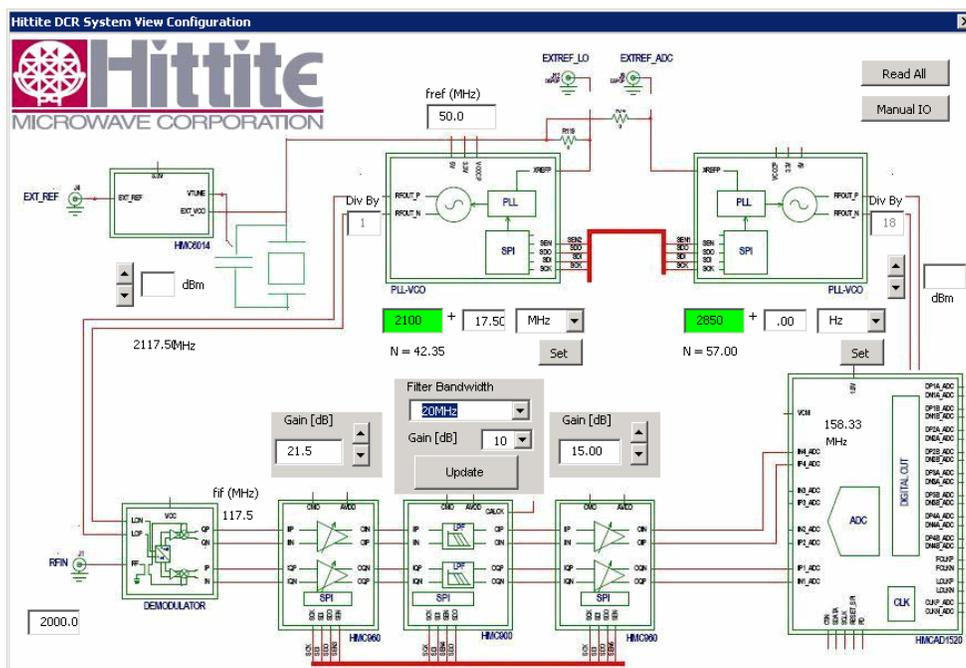
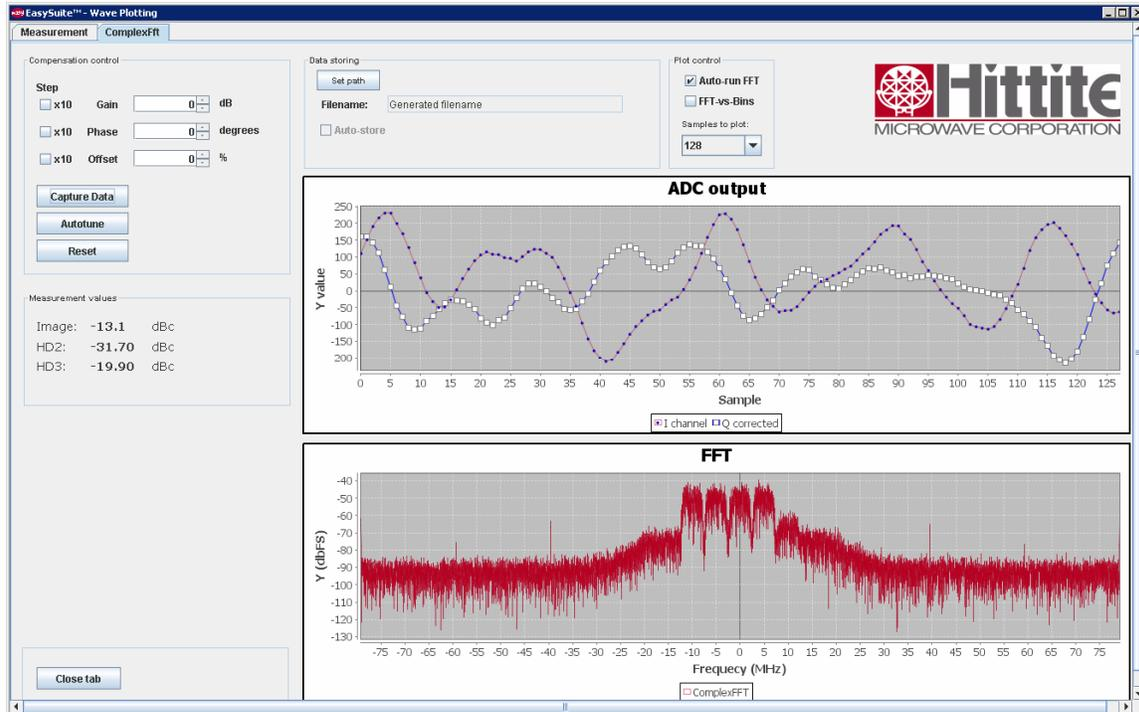
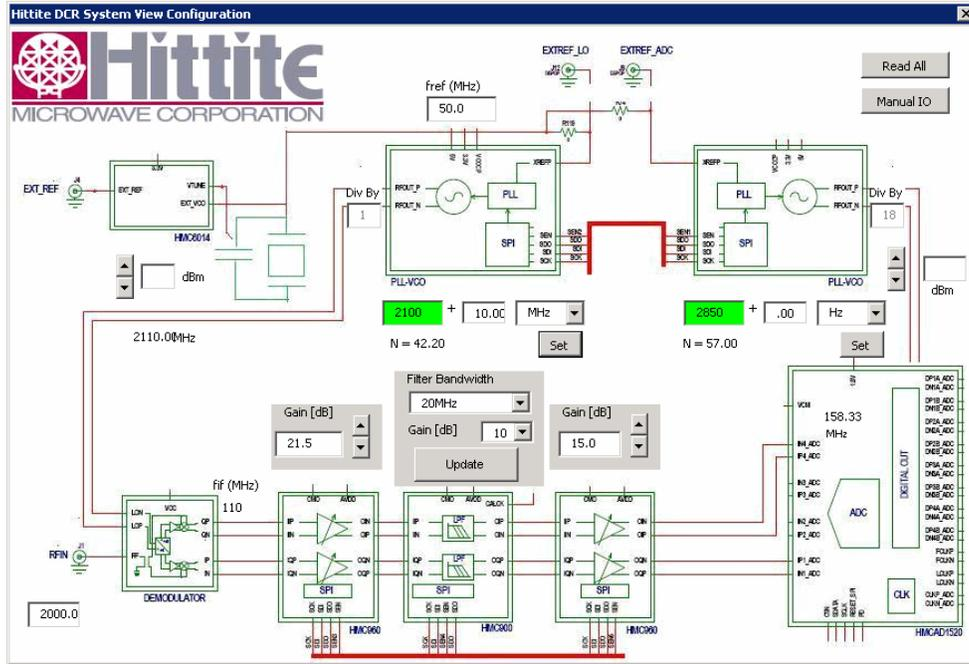
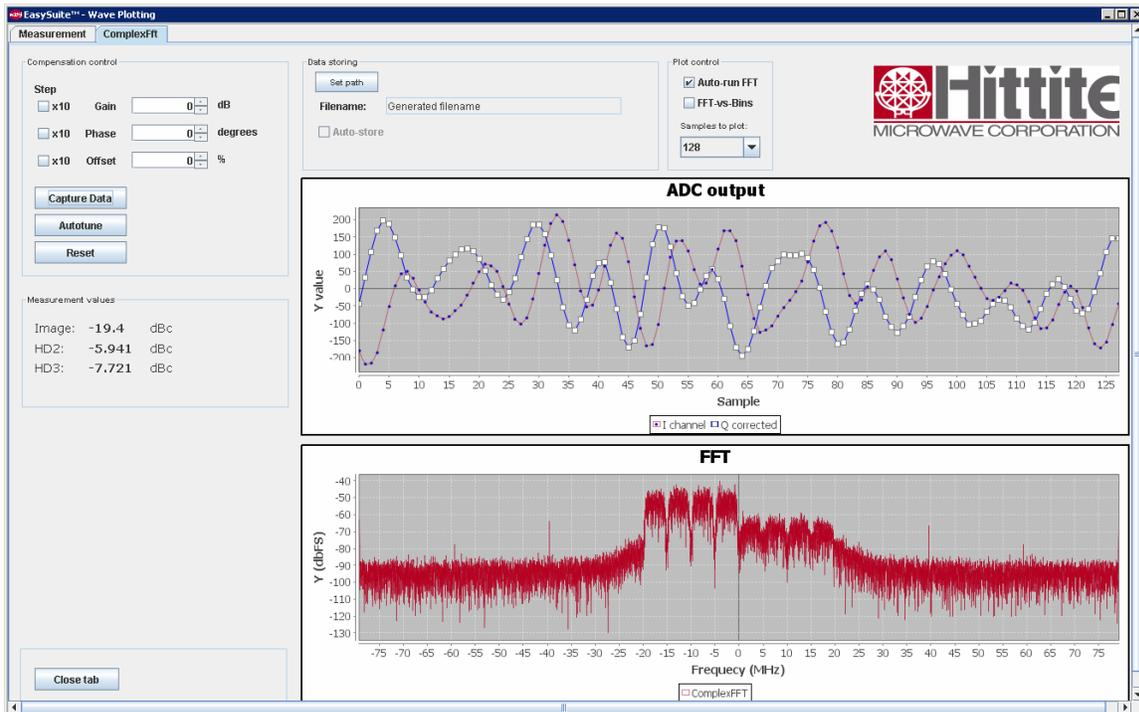

Figure 46. DCR System View Configuration showing adjustment of filter bandwidth to 20 MHz
Figure 47. EasySuite ComplexFft observation as a result of adjusting the filter bandwidth to 20 MHz
Figure 48. DCR System View Configuration showing the LO programmed to 2110 MHz
Figure 49. DCR EasySuite showing received four carrier WCDMA signal with image
27. After changing the filter bandwidth to 20 MHz as shown in Figure 46, it is apparent that there are four WCDMA carriers (Figure 47).
28. The data observed in Figure 47 is not correctly demodulated to baseband. It is actually a 20 MHz bandwidth signal demodulated to 2.5 MHz. In order to correct that, the LO is programmed to 2110 MHz (input signal is 4 carrier CDMA centered at 2120 MHz and approximate bandwidth of 20 MHz), so that the signal is received at baseband centered at 10 MHz, with 20 MHz bandwidth. The DCR System View Configuration is shown in Figure 48 and the resulting received signal is shown in Figure 49.
29. Remembering calibration calculation above using 1 carrier WCDMA signal, and applying it to uncalibrated four carrier WCDMA signal in Figure 49, Figure 50 is observed. Figure 50 shows that DCR calibration holds, independent of input signal and bandwidth. It shows that once calibrated settings from one carrier WCDMA data are applied to independent signal made up of four carrier WCDMA data, the image is virtually eliminated.